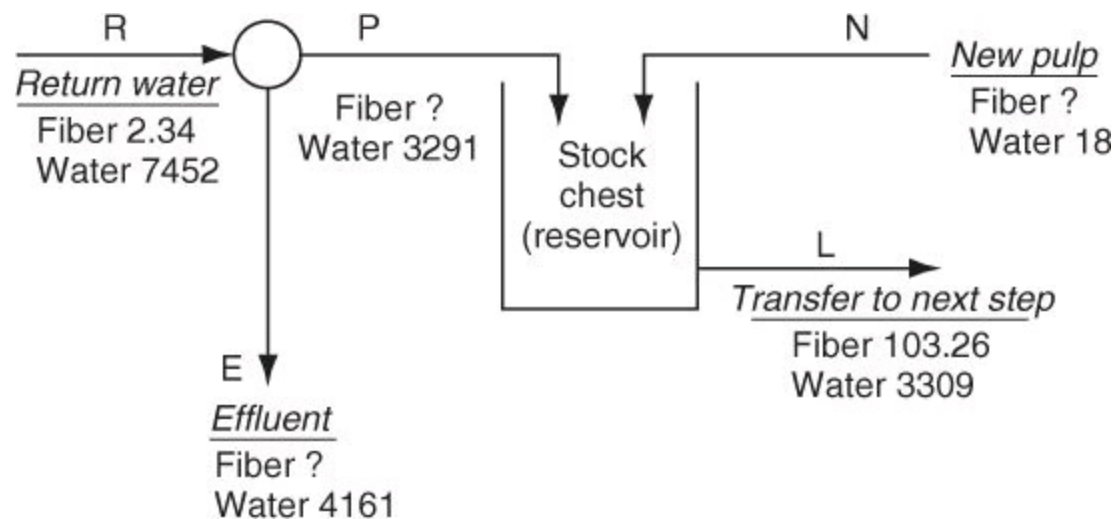

Figure P6.2.4
****6.2.4.** In a tissue paper machine (Figure P6.2.4), stream N contains 85% fiber. Find the unknown fiber values (all values in the figure are in kilograms) in kilograms for each stream.